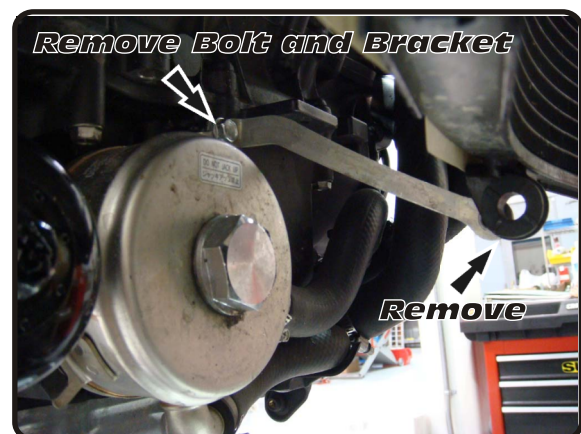

Fig. 3
-Remove lower radiator bracket. (Fig. 3)